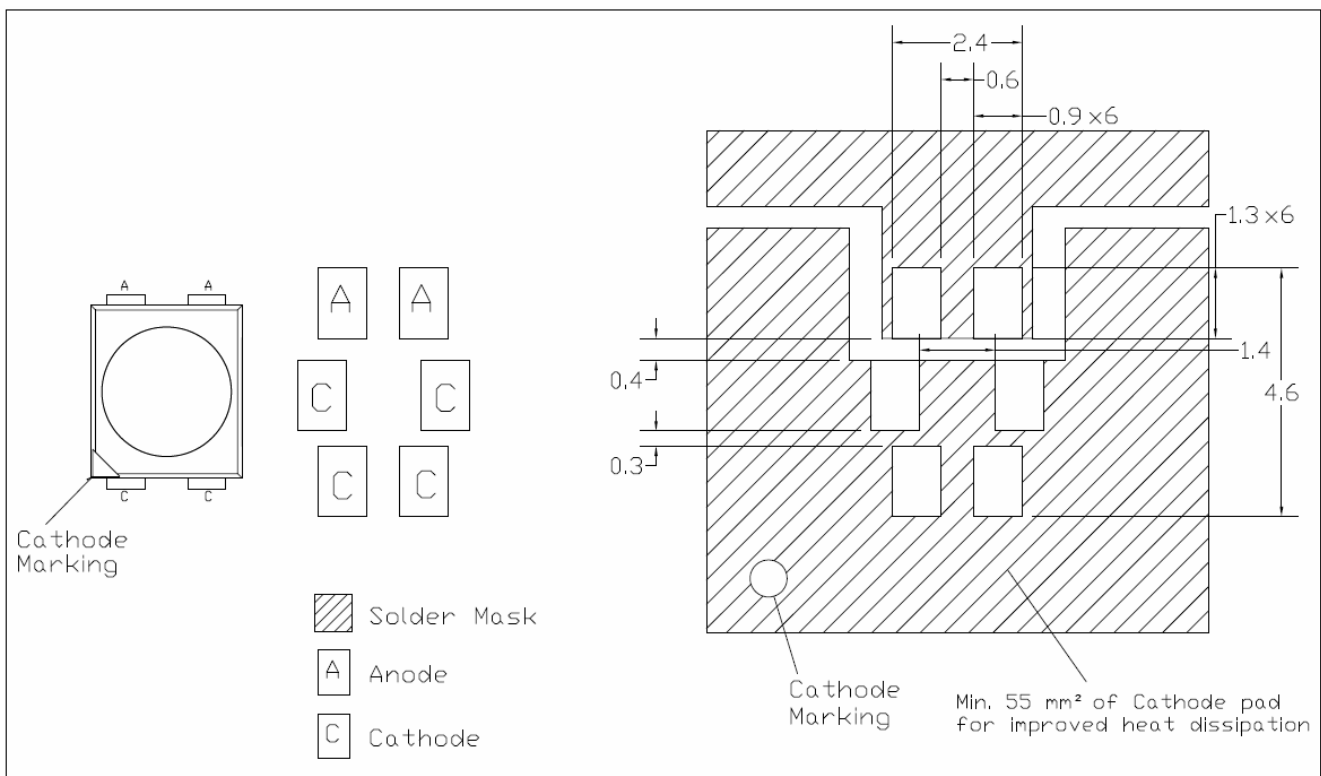

Figure 11. Recommended Soldering Pad Pattern.
2. Lead Polarity as shown in Figure 11.